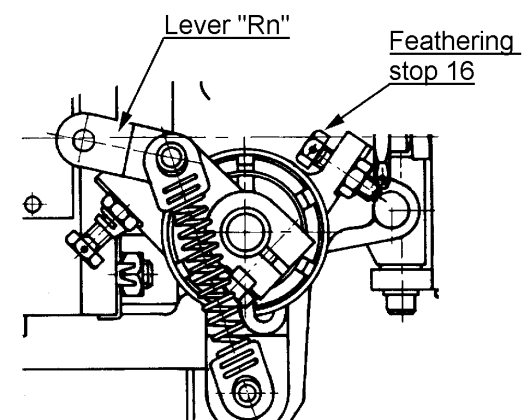

Figure 11-30 Feather stop adjustment
- c) Remove seal and lock wire from the stop **16** - figure 11-30.
- Remove seal and lock wire from the stop [16] - figure 11-30.